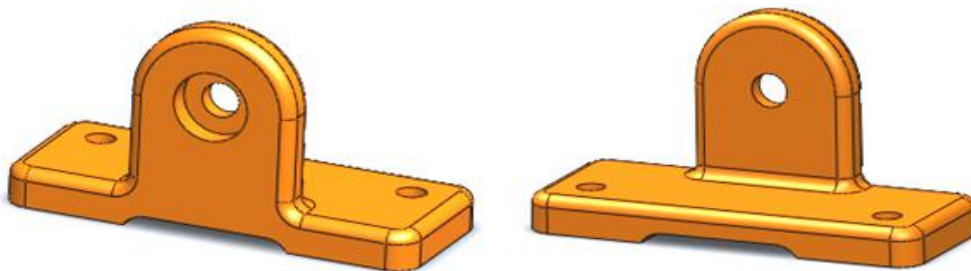

Figure 7.1 – Part model
7.2.1 Get familiar with the part model (figure 7.1).